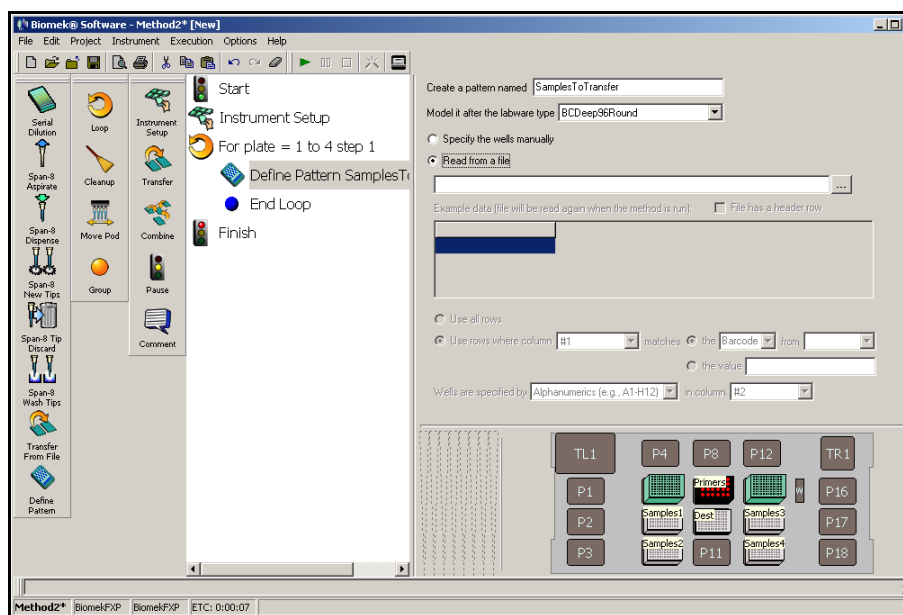

Figure 9-4. Read from File chosen
5. Check **Read from file**. The configuration changes (Figure 9-4).